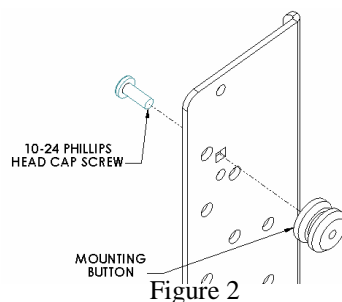
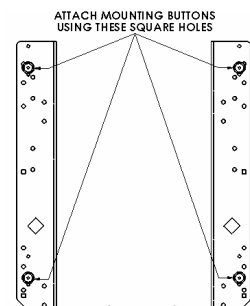

Figure 2
Figure 3
1. Using a 10-24 Phillips head cap screw inserted into square holes from back side of bracket, secure mounting button, with chamfered hole of mounting button (larger surface) facing bracket, to bracket (four places) (see Figure 2 & Figure 3). Make sure bends of interface bracket face away from buttons.